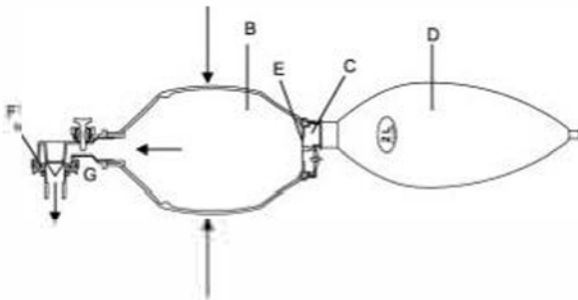

Figure 2. Exhalation
Gas is delivered to the patient by squeezing the bag (see figure 2). Positive pressure within the bag caused by its compression closes the intake valve (E) located at the base of the bag. This causes the duckbill valve (F) to close off the expiration ports (G) of the non-rebreathing assembly. Further compression of the bag forces gas through duckbill valve to the patient. If supplemental gas is used, oxygen is delivered to the reservoir (D) during compression of the silicone bag.